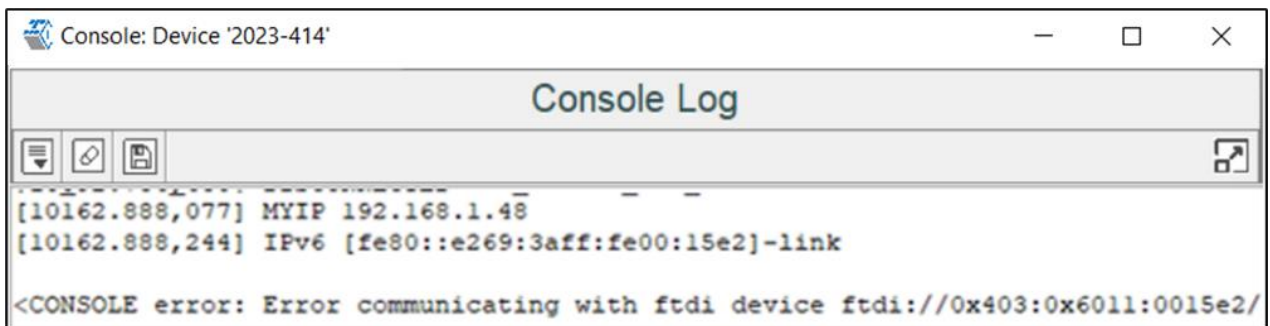

Figure 12: Error communicating with FTDI device
2. Keeping this tool idle for a while (around 2 to 3 hours), may lead to loss of communication to the EVK device. This is indicated in the console as “Error communicating with FTDI device”, as show in Figure 12. Workaround for this is as follows: